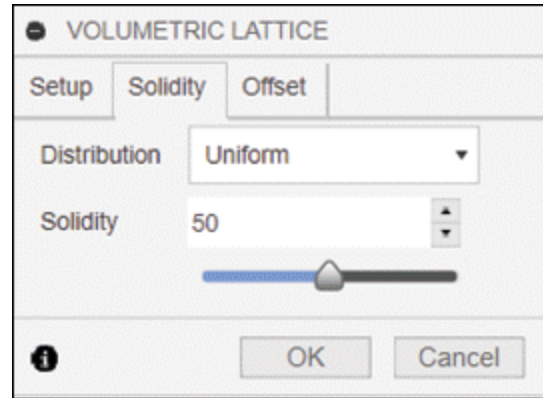

Figure-78. Solidity tab
- Click on the **Solidity** tab to define the percentage of model which will be solid after applying lattice; refer to Figure-78.